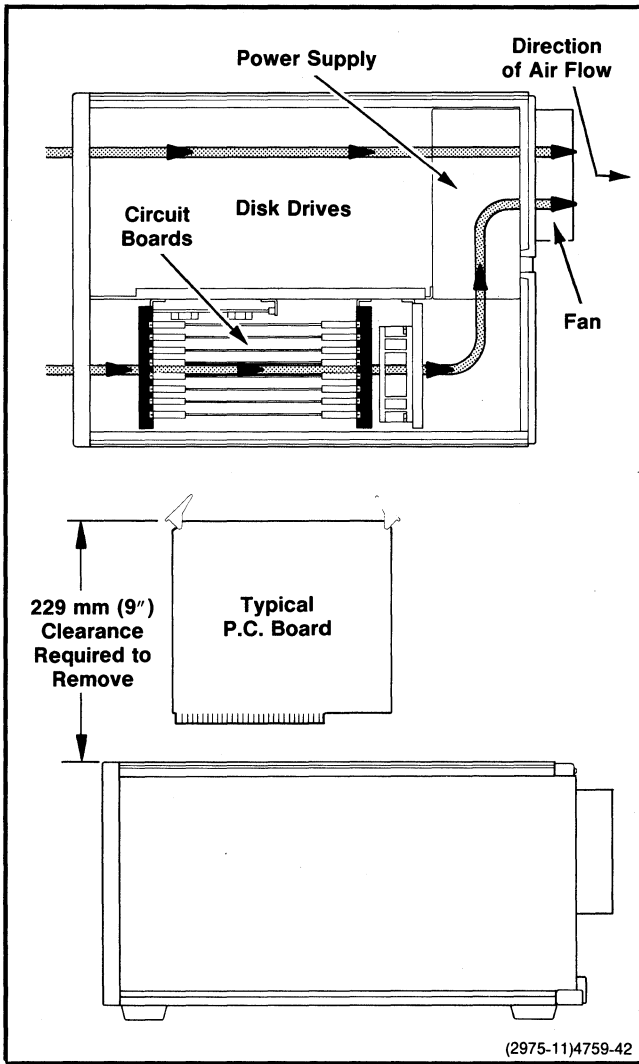

Fig. 18-2. Circuit board clearance requirements.
6. Sufficient space behind and to the sides of the unit to permit removal of the cover and access to the inside of the unit. (Refer to Fig. 18-2 for the required circuit board clearances.)